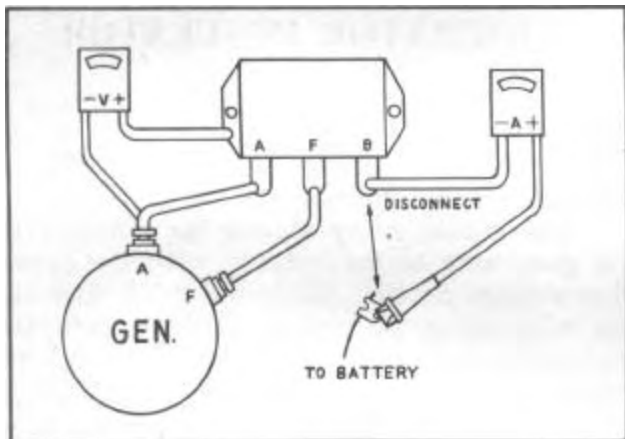

FIGURE 14
1. Disconnect the battery wire at the voltage regulator "B" terminal and connect the ammeter between the voltage regulator "B" terminal and the wire disconnected, Figure 14.